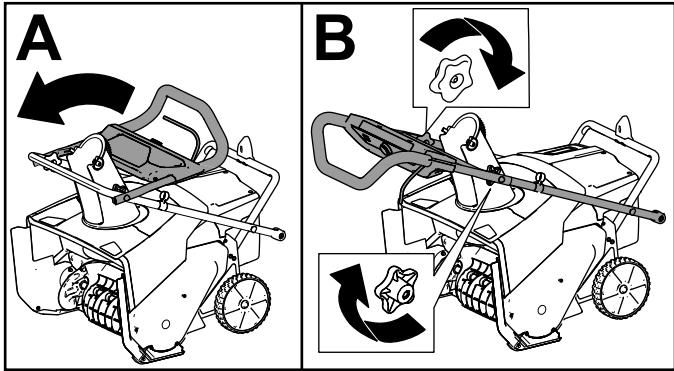

Figure 4
2. Unfold the upper handle and allow the upper handle knobs to snap into place (A of Figure 4).
3. Tighten the handle knobs (B of Figure 4).